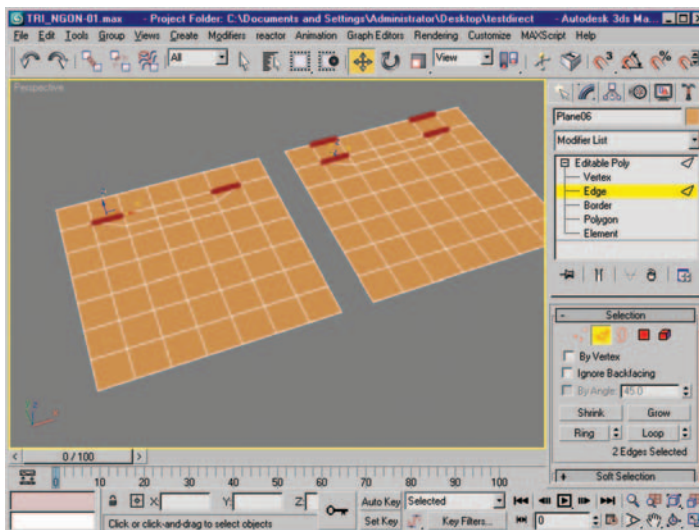

Figure 6.52 *Edge selection and resulting selection after using Ring—four edges in total.*
1. At the Edge subobject level, select the two edges shown in Figure 6.52 and use Ring or Alt+R to create a ring selection of two edges per side, four edges in total.